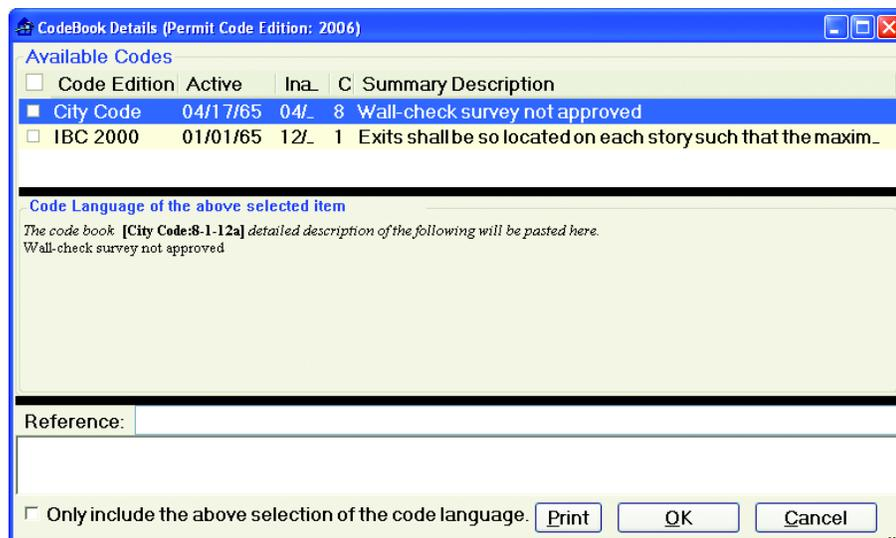

Figure 4-7 Code Book Details window
1. Once you've selected a correction code from the Edit Correction window, click **Code Book**. The Code Book Details window displays (Figure 4-7).